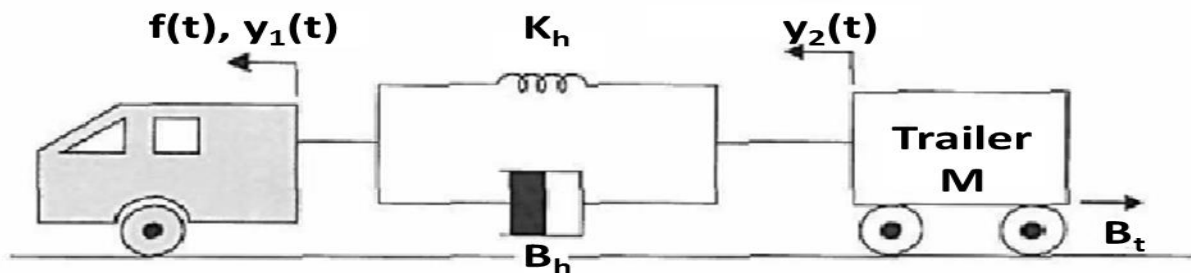

Figure 1
- 1A.** A vehicle towing a trailer through a spring-damper coupling hitch is shown in Figure 1. The following parameters and variables are defined:  $M$  is the mass of the trailer;  $K_h$ , the spring constant of the hitch;  $B_h$ , the viscous-damping coefficient of the hitch;  $B_t$  the viscous-friction coefficient of the trailer;  $y_1(t)$ , the displacement of the towing vehicle;  $y_2(t)$ , the displacement of the trailer; and  $f(t)$ , the force of the towing vehicle. Find the transfer function of the system by considering  $y_2(t)$  as output. **4**